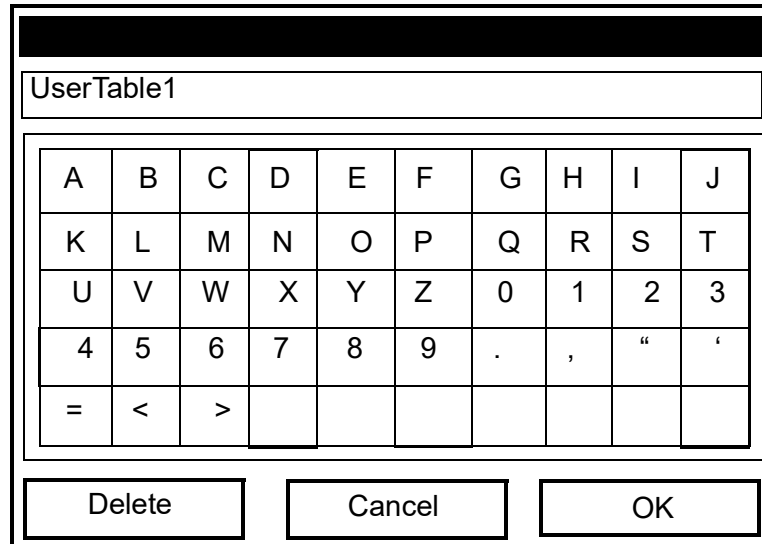

Figure 111: The Text Creation Window
- a. Press **[ENTER]** to open the window. The screen now appears similar to Figure 111 below.